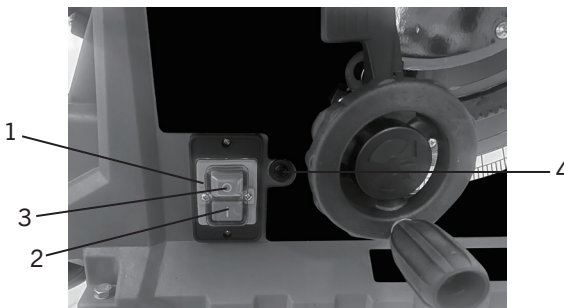

FIG. 4
The ON/OFF switch (1) (Fig.4) is located on the front of the table saw. Press the green ON button (2) to turn table saw On press the red OFF button (3) to turn table saw Off. This table saw is equipped with an electromechanical safety switch with line voltage interruption, in case of a power failure the table saw will need to be restarted using the switch.
This table saw comes with an overload reset button (4) (Fig.4) (above the ON/OFF Switch). A safety mechanism stops the motor automatically due to the motor overheating or low voltage. Allow the saw to cool or plug the saw into outlet with sufficient voltage and then press the reset button to restart the table saw. If the table saw does not restart, wait 5 minutes before attempting to restart again.